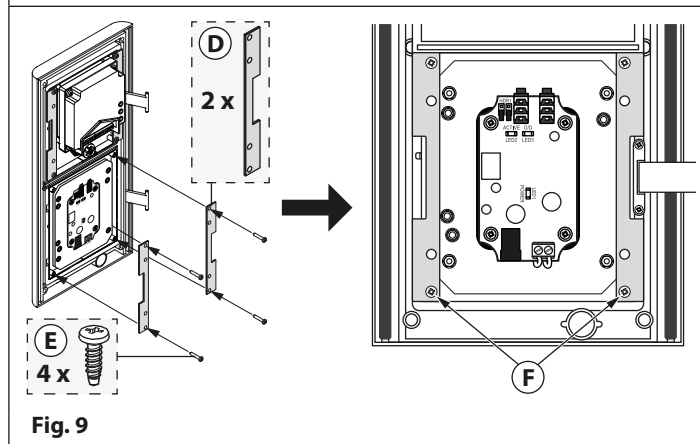

Fig. 9
4. Take the VR4K series mounting brackets, **Fig.9, (D)**, and the 4xM3 fixing screws, **Fig.9, (E)**.
5. From the inside of the front frame use the M3 fixing screws to attach the mounting brackets (2 screws per bracket and one screw in each corner) and secure the induction loop module in place, as shown in **Fig.9, (F)**.